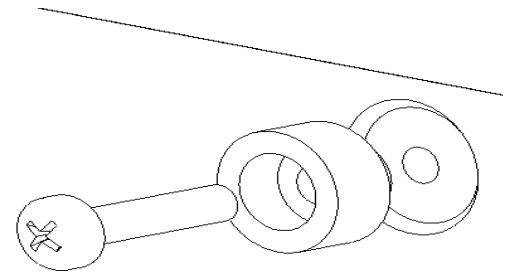

Figure 30. Remove Sony Mounting Buttons
1. Using a Phillips screwdriver, remove the four mounting buttons attached to the back of your Large Flat Panel display (see Figure 30).